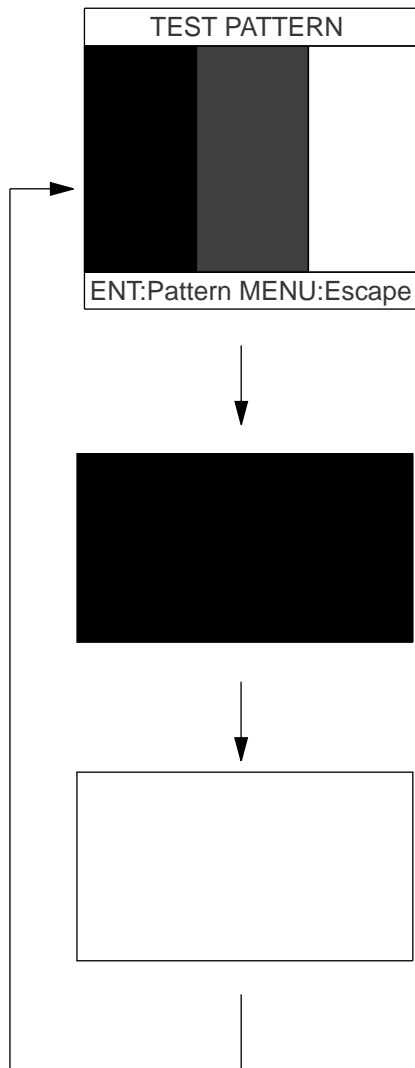

Figure 9-12 Test patterns 1 and 2
- 2) To change the test pattern, press the **NU/CU ENT** key. Each time the key is pressed one of the patterns shown in Figure 9-12 appears.